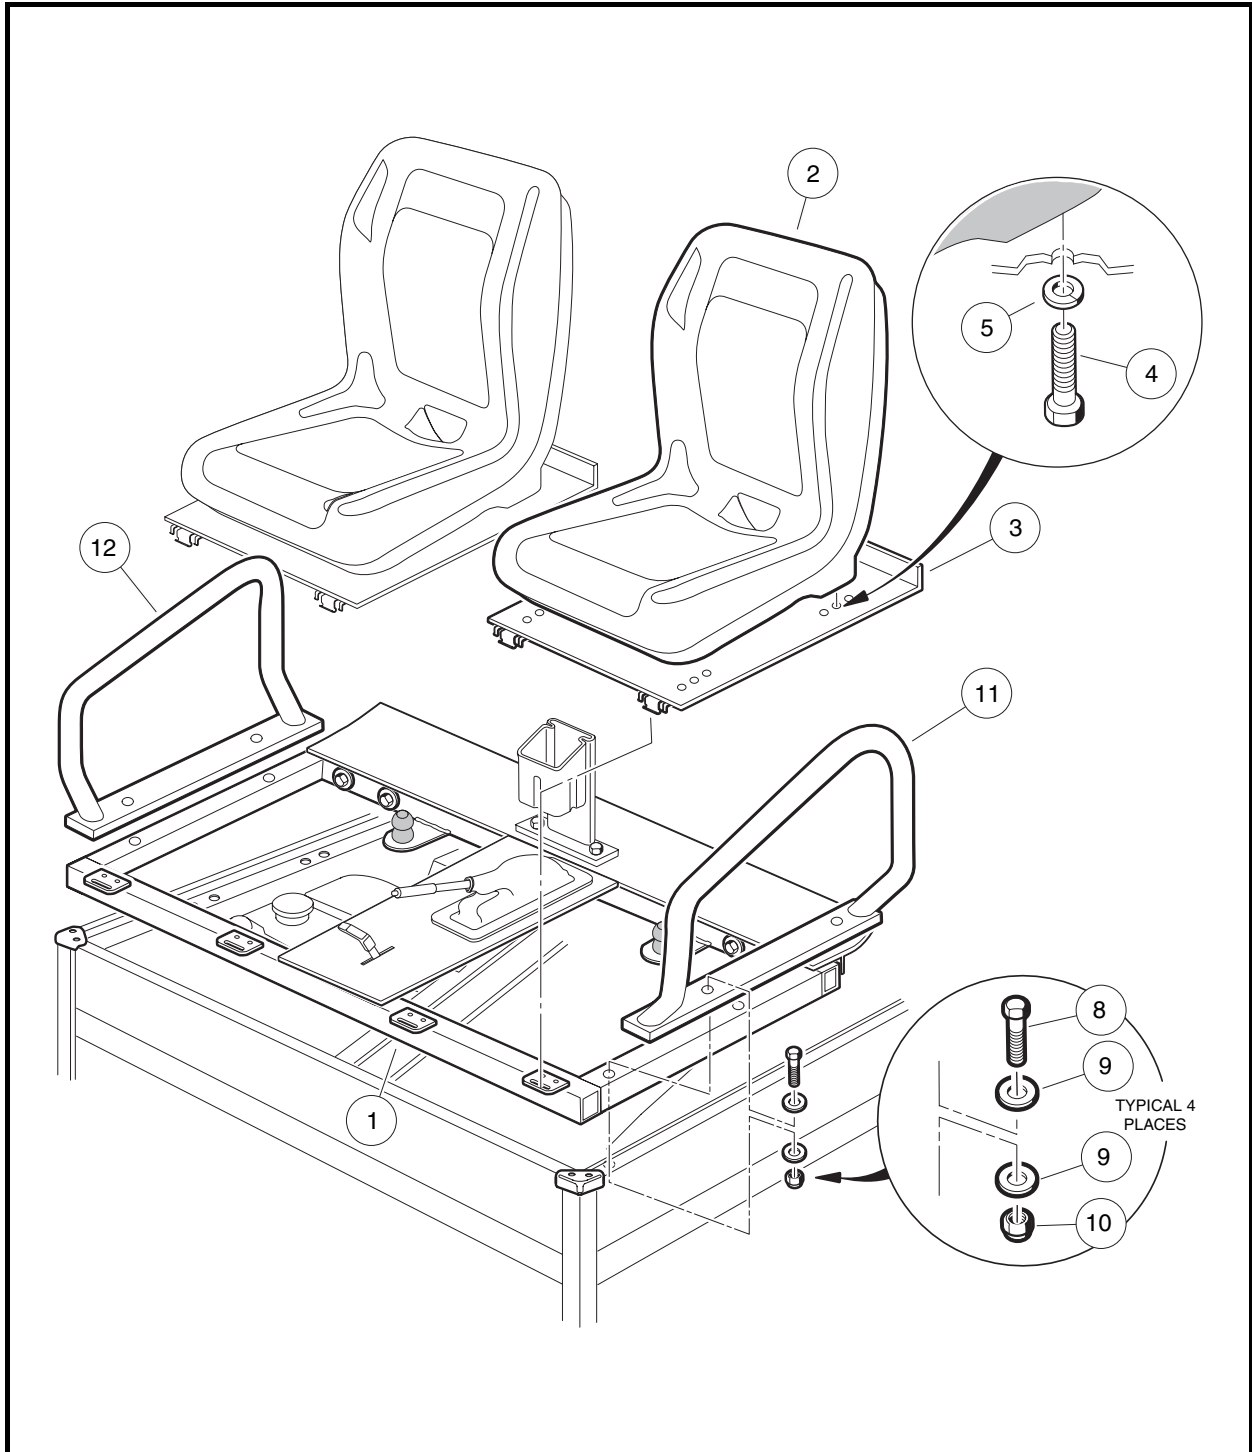

Figure 4-3 Front Seat Support
1. Remove seat (2) from vehicle.
2. Disassemble seat (2) from seat panel (3) by removing four bolts (4) and lockwashers (5) (**Figure 4-3, Page 4-7**).
3. Adjust seat to preferred position. Align holes in seat panel (3) with holes in seat (2) and secure with four bolts (4) and lockwashers (5). Tighten bolts to 96 in-lb (10.8 N·m). **See following WARNING.**
1. Completely remove both front seats (2) from the vehicle (**Figure 4-3, Page 4-7**).
4. Remove four hex-head bolts (8), eight washers (9) and four locknuts (10) from the seat support (**Figure 4-3, Page 4-7**).
5. Remove the two armrests (11 and 12) from the seat support (1).
6. Lift seat support (1) from vehicle.
1. Reverse the front seat support removal process (**Figure 4-3, Page 4-7**).
2. Assemble bolts (8), washers (9), and locknuts (10) to seat support and armrests (11 and 12) and tighten bolts (8) to 13 ft-lb (17.6 N·m). **See following WARNING.**